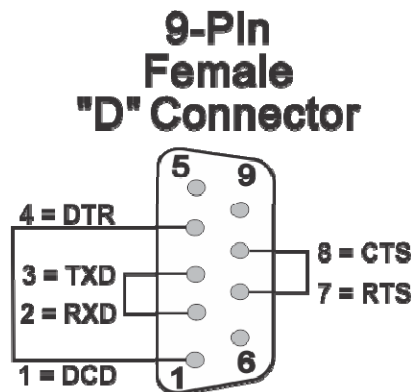

Figure 5-22. RS-232 Loop-back Plug
- Ports 1, 2, and 4 (RS-232) use a 9-pin female D-type loop-back plug (shown in *Figure 5-22*).